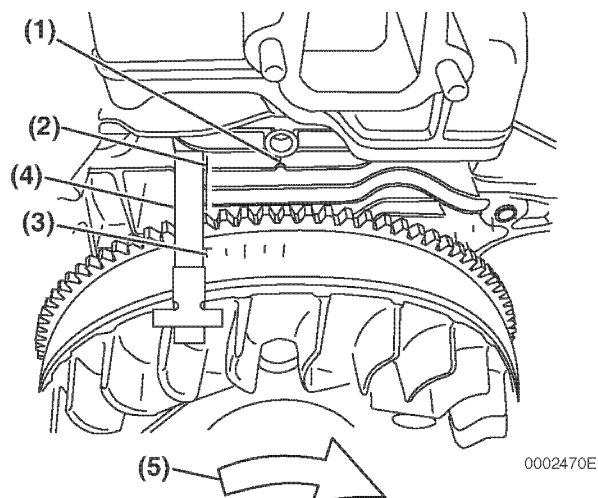

Figure 6-30
8. Carefully rotate the flywheel in a clockwise (**Figure 6-30, (5)**) direction to allow the piston to contact the intake valve. Measure the distance from the existing TDC mark (**Figure 6-30, (1)**) on the cooling fin to the TDC mark on the flywheel (**Figure 6-30, (3)**) (where the flywheel stopped).
10. With the piston in contact with the intake valve, use a straightedge (**Figure 6-30, (4)**) and scribe or fine point marker to transfer the position of the flywheel TDC mark (**Figure 6-30, (2)**) to the cooling fin.